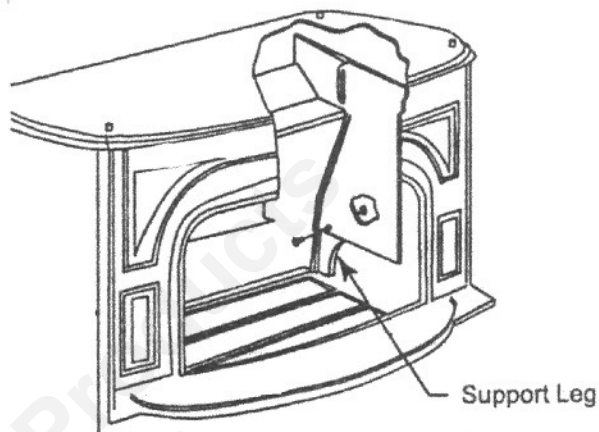

FIG. 13 Install Baffle Support Leg
- Position the support leg under the rear of the baffle, against the lower fireback. Secure it to the baffle with a 1/4-20x1" hex head bolt and hex nut. (fig. 13).